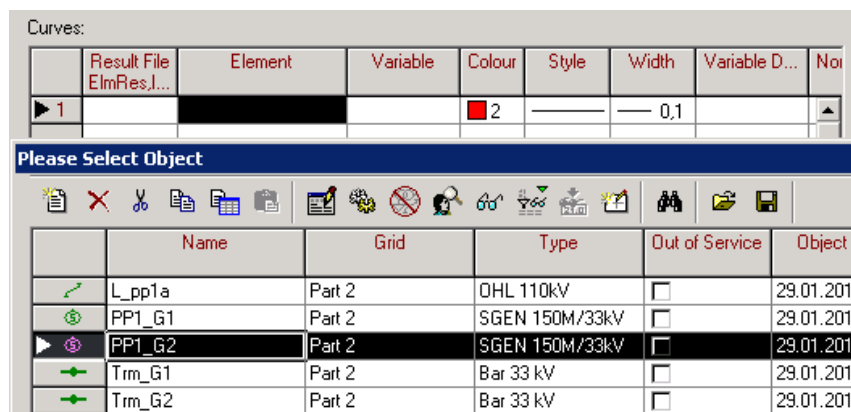

Figure I.4.1: Selecting an element to display the calculated results in a plot
- In the “Curves” field (bottom of the edit dialogue), double click on the empty Element field to select an element. A data browser, showing the elements with defined variable sets, pops up (Figure I.4.1). Double click on the PP1\_G2 icon to select it.